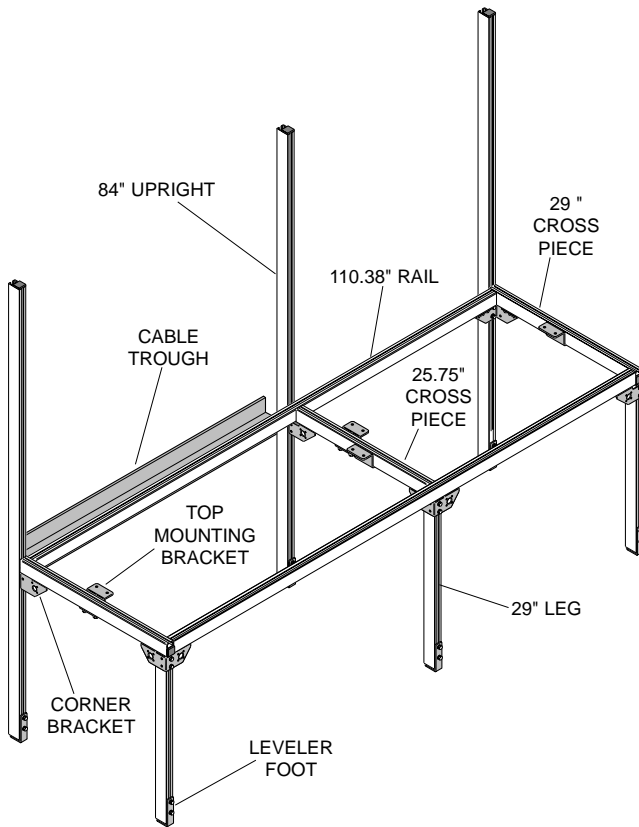

Figure 5.
10. Stand basic frame on its legs (Fig. 5). Make sure frame is square and securely tighten all trak nuts before proceeding.
29. Move packaging station into location in which it will be used. Adjust leveler feet (Fig. 5) to compensate for floor unevenness.